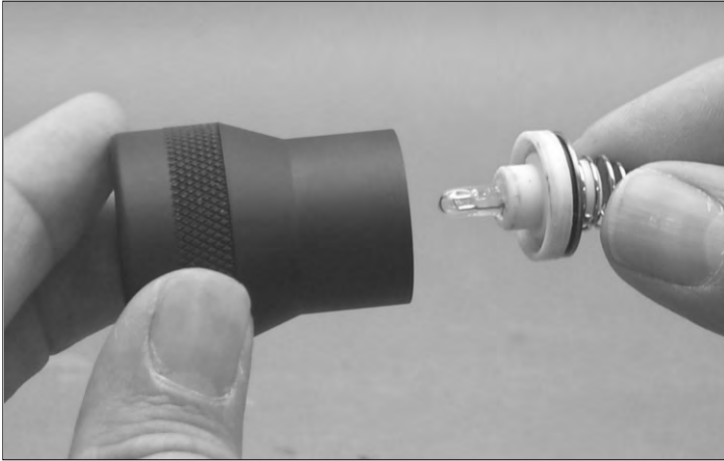

Figure 6
Step 4. Install the replacement lamp taking care not to touch the glass bulb with your fingers. See Figure 6, p. 12. If you accidentally touch the glass bulb, use an oil free cloth and rubbing alcohol to clean the lamp.